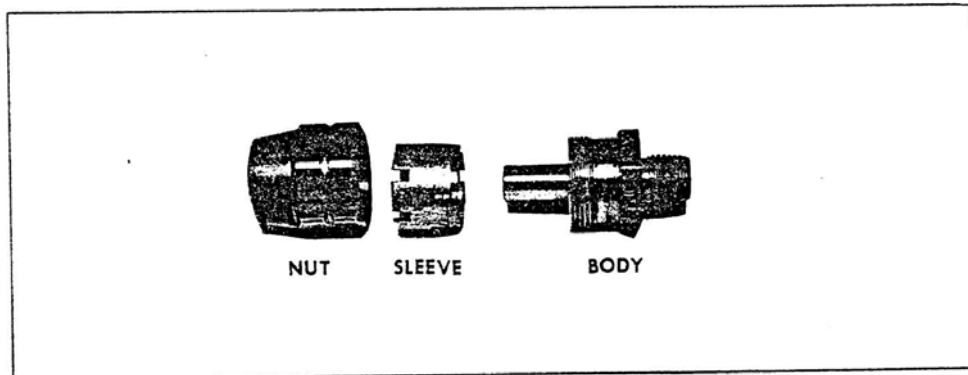

Fig. 4
2. Place fitting body in soft jaw vice. Install nut, then sleeve on hose. (Refer to Fig. 4 and 5 for correct position of sleeve.)